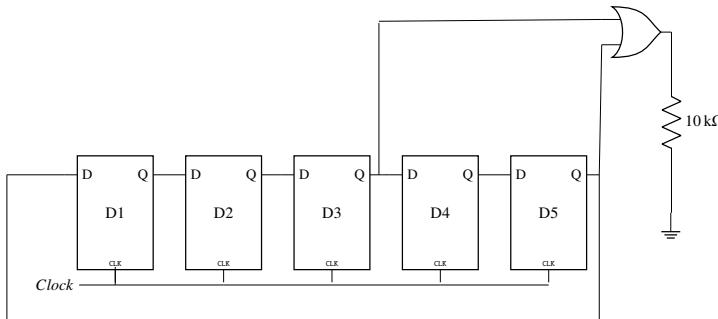

Fig. 5.26
26. Assume that all the digital gates in the circuit shown in Fig. 5.26 are ideal, the resistor  $R=10k\Omega$  and the supply voltages is 5V. The  $D$  flip-flops  $D_1, D_2, D_3, D_4$  and  $D_5$  are initialized with logic values 0, 1, 0, 1, and 0, respectively. The clock has a 30% duty cycle.